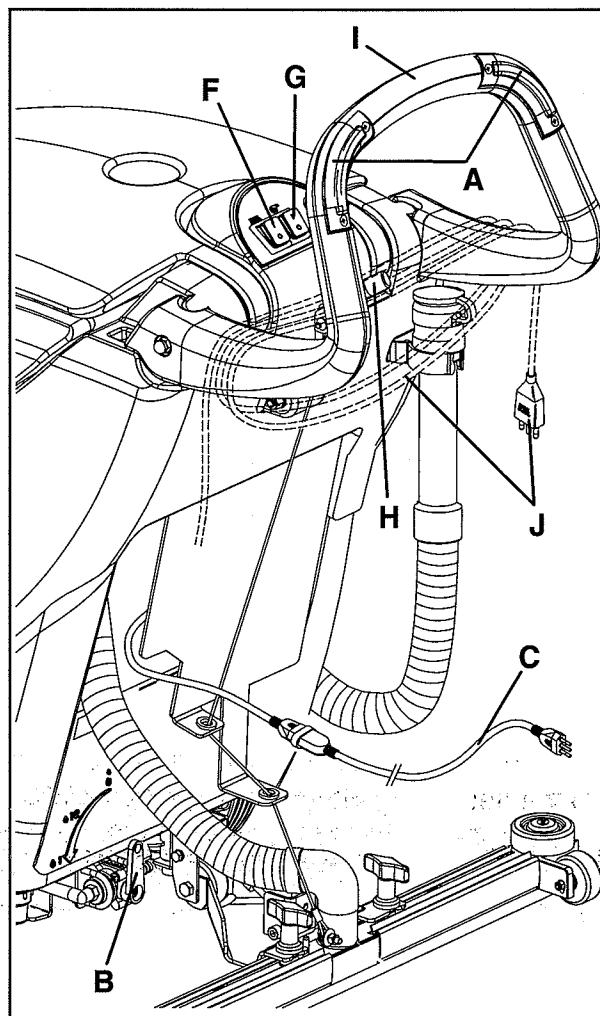

Figure 10
2. While keeping both hands on the handlebar (I, Fig. 10), move the machine and start scrubbing/drying the floor.
- When the machine is stopped, stop the brush/pad by releasing the switches (A, Fig. 10).
Before lifting the brush/pad, stop its rotation by releasing the switches (A, Fig. 10).
3. If necessary, adjust the solution flow sent to the brush/pad by turning the lever (B, Fig. 10).
1. Turn the brush/pad rotation switch and the water vacuuming switch (F and G, Fig. 10) to the "0" position.
2. Disconnect the power supply cable plug (C, Fig. 10) from the electrical mains. Roll up the power supply cable on the handlebar into position (J).
3. Lift the squeegee by pushing the lever (H, Fig. 10) completely upwards.